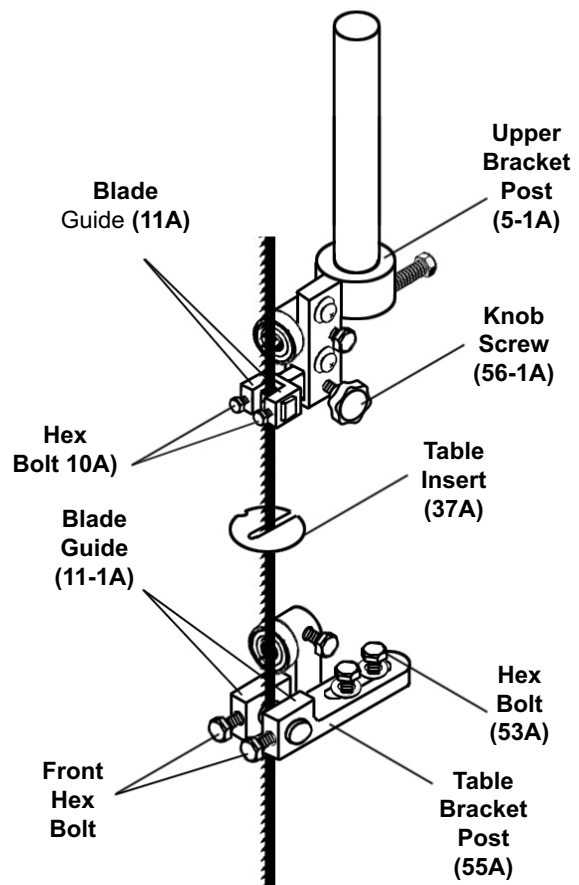
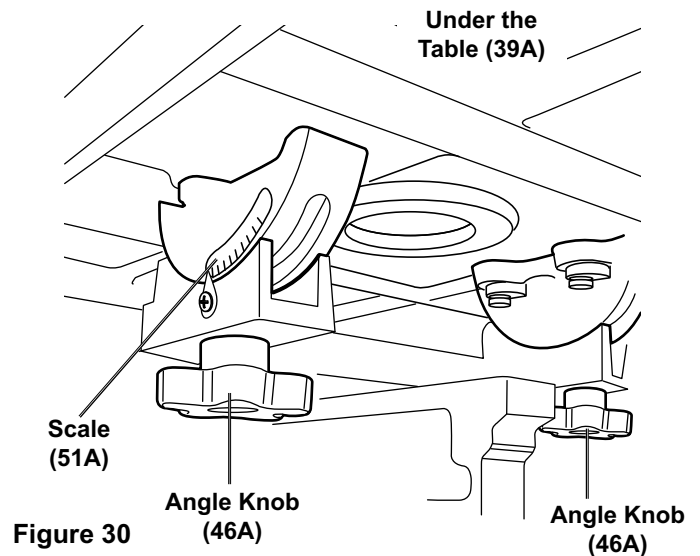

Figure 28
Figure 30
3. Loosen the Knob Screw (56-1A) on the side of the Bracket Post and adjust the upper Blade Guides' (11) position so that they line up with the **flat** portion of the Saw Blade without reaching the cutting edge. See Figure 28. Tighten the Knob Screw (56-1A) after adjustment.
4. Loosen two Hex Bolts (10A) and move the upper Blade Guides (11) as close as possible to the **side** of the Saw Blade without touching it. Once aligned, tighten the Hex Bolts.
5. Loosen the two Angle Knobs (46A) under the Table and pivot the Table forward as far as possible. See Figure 30.
6. Loosen the two Hex Bolts (53A) on the Bracket Post (55A) and adjust the lower Blade Guides' (11A) positions so that they line up with the **flat** portion of the Saw Blade without reaching the cutting edge. See Figure 28. Tighten the Hex Bolts (53A) after adjustment.
9. Return Table to its normal position and secure by tightening Knobs (46A). See Figure 30.
1. Loosen the two Angle Knobs (46A) underneath the Table (39A). See Figure 30.